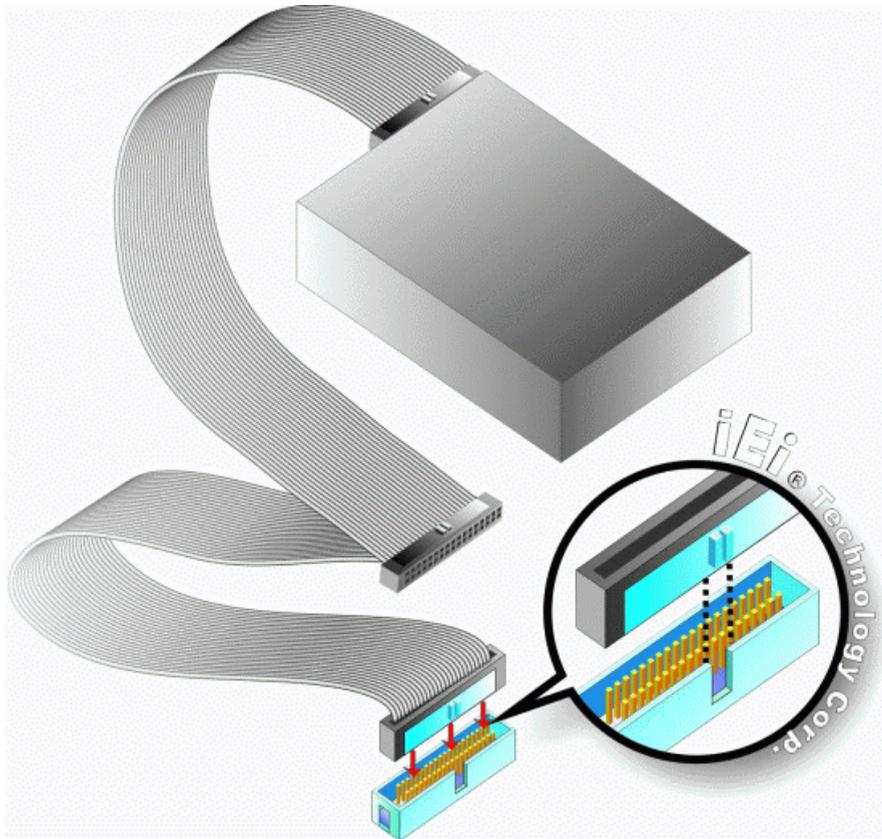

Figure 5-6: IDE Cable Connection
Step 2: Insert the connector. Connect the IDE cable connector to the onboard connector. See **Figure 5-6**. A key on the front of the cable connector ensures it can only be inserted in one direction.